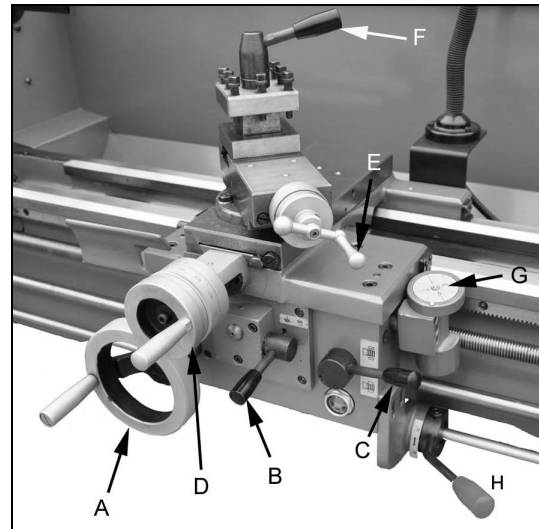

Figure 9-2
9. **Longitudinal Traverse Handwheel** (A, Figure 9-2) – Rotate handwheel clockwise to move apron assembly toward tailstock (right). Rotate handwheel counterclockwise to move apron assembly toward headstock (left).
10. **Feed Selector** (B, Figure 9-2) – Push lever to the left and down to activate crossfeed function. Pull lever to the right and up to activate longitudinal function.
11. **Half Nut Engagement Lever** (thread cutting) (C, Figure 9-2) – Move lever down to engage. Move lever up to disengage.
12. **Cross Traverse Handwheel** (D, Figure 9-2) – Clockwise rotation moves cross slide toward rear of machine.
13. **Compound Slide Traverse Handwheel** (E, Figure 9-2) – Rotate clockwise or counterclockwise to move or position.
14. **Tool Post Clamping Lever** (F, Figure 9-2) – Rotate counterclockwise to loosen and clockwise to tighten. Rotate tool post when lever is unlocked.
15. **Threading Dial** (G, Figure 9-2) – Engage by pushing into the leadscrew. Pull out to disengage. The dial indicator and chart will specify at which point a thread can be entered.
16. **Forward/Reverse Lever** (H, Figure 9-2) – Pull lever up for clockwise spindle rotation (reverse). Push lever down for counterclockwise spindle rotation (forward). Neutral position is a center detent and spindle remains idle.